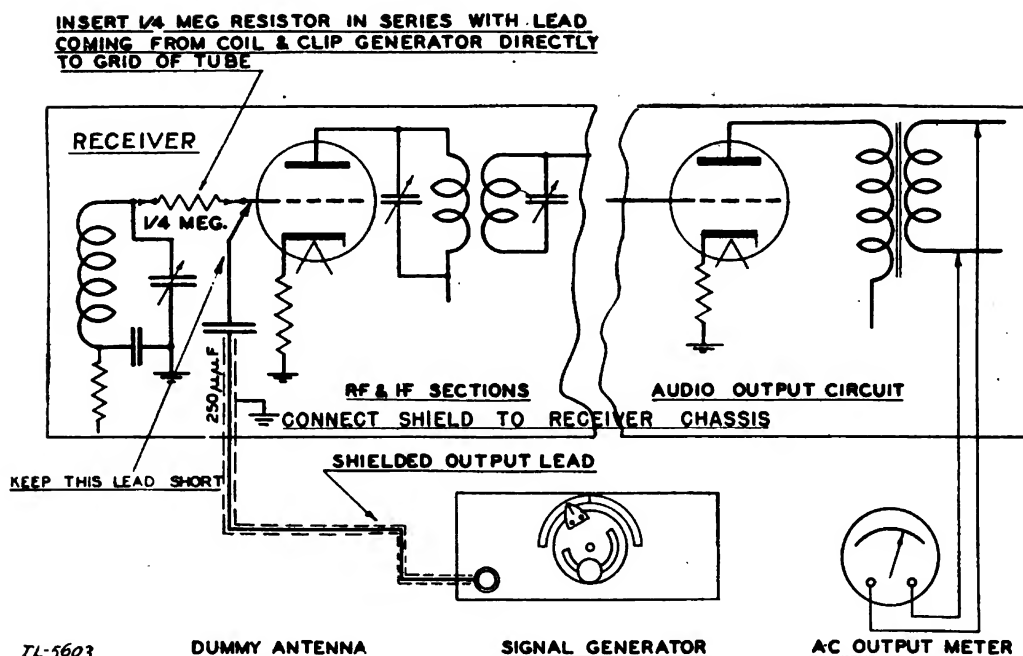

FIGURE 3.—Method of connecting signal generator to radio receiver for alinement.
b. Method of connection.—With the output meter connected across the audio output of the receiver as shown in figure 3, disconnect the lead from the control-grid terminal of the first detector tube. Place an isolating resistor of $\frac{1}{4}$ megohm in series with this lead and reconnect to the terminal from which it was removed. This resistor will minimize the effect of the tuned circuit upon the stage under test while maintaining proper bias on the grid. Connect the signal generator to the grid through a 250 μ f capacitor in series with the output lead of the signal generator and connect the shielded braid of the signal generator output lead to the receiver chassis as shown in figure 3.